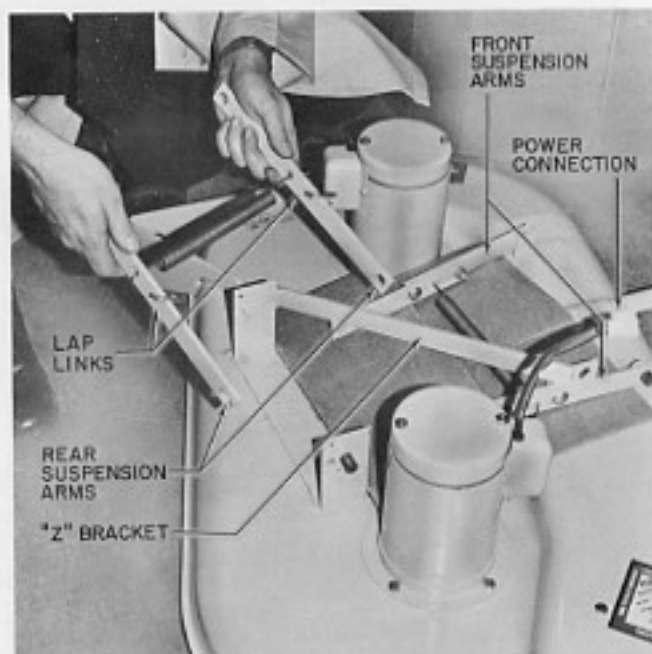
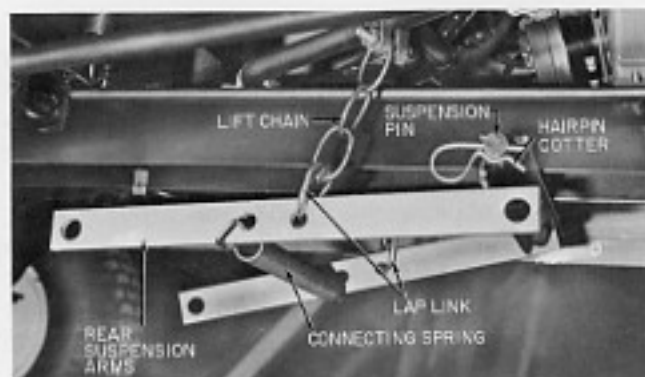

Fig. 19 Mower Unpacking
Fig. 20 Rear Suspension Arm Installation
2. Remove the hair pin cotter and the rear suspension arms with the spring from the top of the mower deck. See Fig. 19. Attach the rear suspension arms to the lift chains with the lap-link fastened to the arms (Fig. 20). Fasten the chain and arms so that the spring connecting the two arms is at the rear of the chains when fastened.